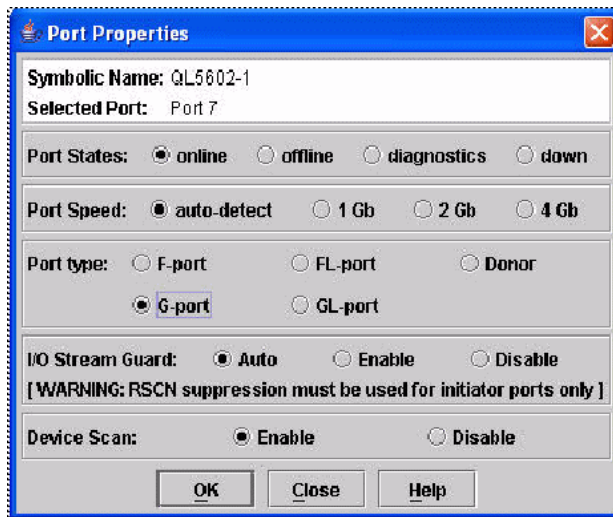

Figure 7-8 Port Properties window
9. From the Port Properties dialog box (Figure 7-8), verify the following settings are true: